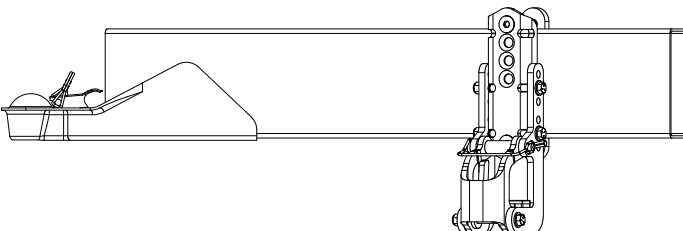

Fig. 2
- Prior to installing on the trailer frame, remove the Quick Release Pin and the three 3/8"-16 X 4" Hex Head Bolts (7a), 3/8" Flat washers (7b), and 3/8"-16 Lock Nuts (7c) from the Hook-up Bracket Assembly (See Fig.2).